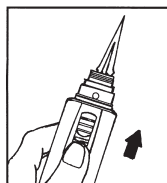

Fig. 3
3. Push igniter forward to ignite the gas. Wait for 2 seconds until you release the igniter. See Fig. 3.